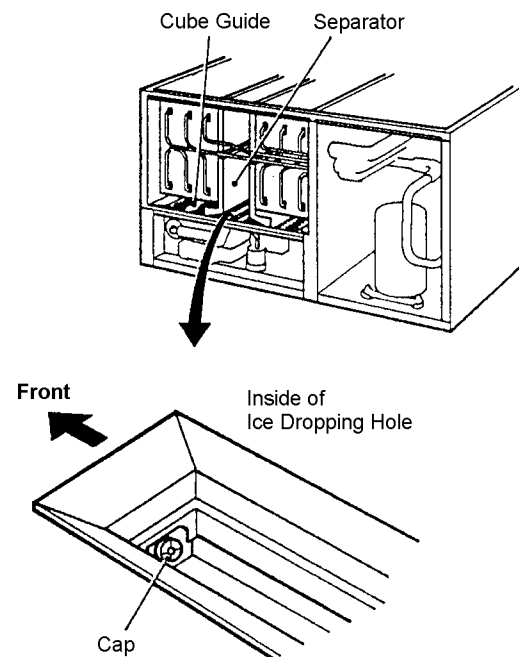

Fig. 3
- 3) Drain the Water Tank by removing the Insulation Panel and the cap at the front of the ice dropping hole. See Fig. 3.